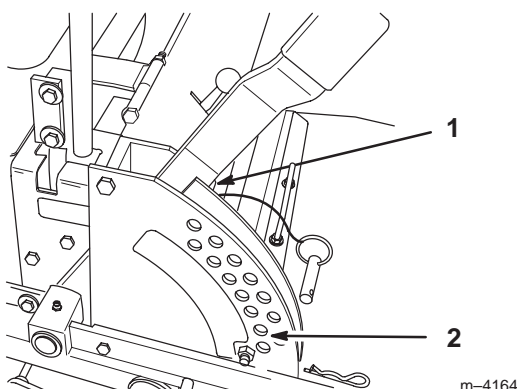

Figure 59
4. Raise the deck to the transport position and take all force off of the two large deck lift springs by loosening nut in front of each spring (Fig. 59).
5. Place two 1-1/2 in. (38 mm) thick blocks under rear left and right lower edge of mower. Place one 2-1/4 in. (57 mm) block under front center lower edge of mower. Lower mower to the 2 in. (51 mm) height-of-cut position (Fig. 59).
1. Raise deck lift lever to the transport position, (Fig. 59).